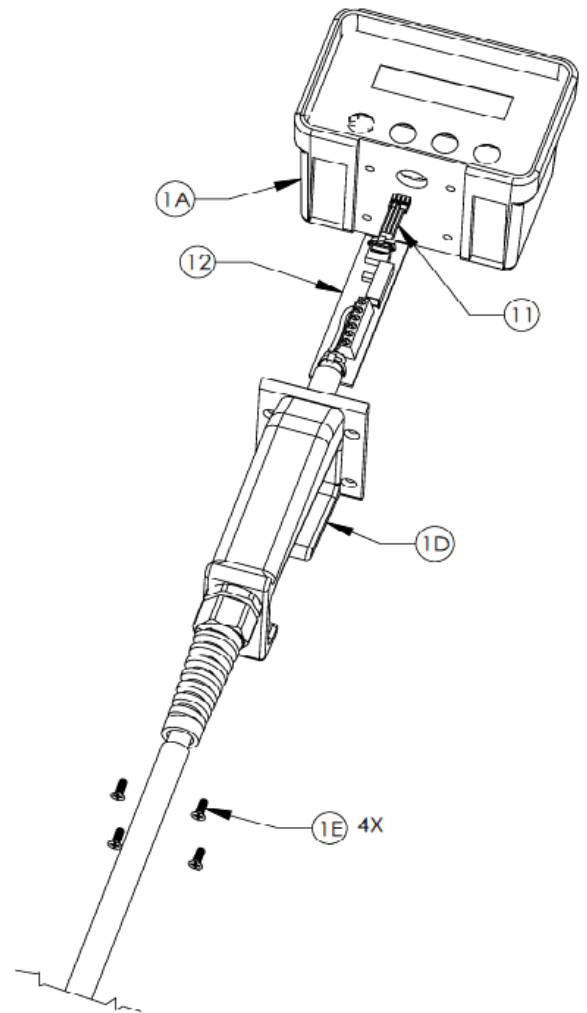
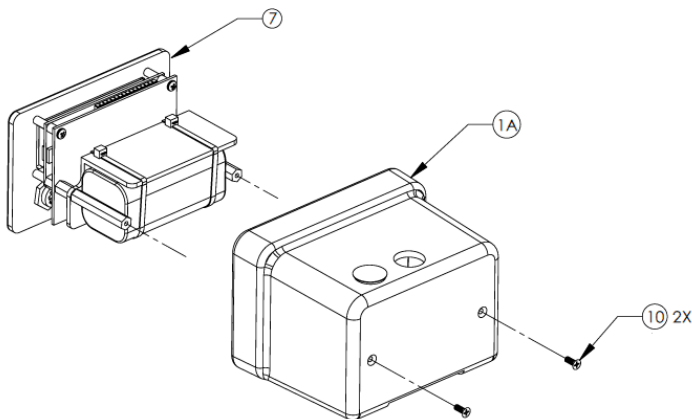
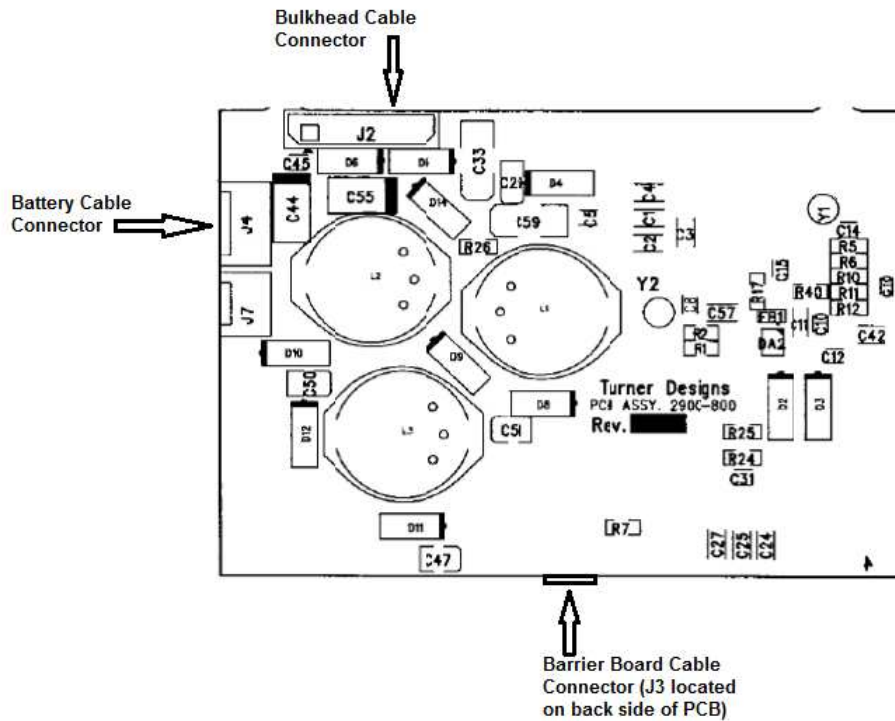
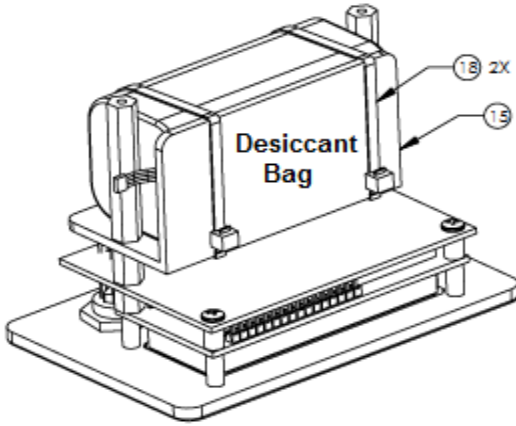

Figure 1.
Figure 2.
Figure 3.
Figure 4.
1. Remove the 4 screws, Ref 1E, that secure the handle, Ref 1D, to the housing, Ref 1A. Refer to Figure 1.
2. Slowly pull the handle, Ref 1D, away from the housing about 1" (2.54 cmn). The Barrier Board, Ref 12, and Barrier Board Cable, Ref 11, will now be exposed. Carefully disconnect the Barrier Board Cable, Ref 11, from the edge connector, J3 (refer to Figure 3), on the DataBank CPU PCB Assembly contained in the housing. Refer to Figure 1.
6. Remove the 2 self-sealing screws, Ref 10, that secure the CPU Assembly, Ref 7, to the Housing, Ref 1A. Discard screws. Refer to Figure 2.
7. Carefully remove the CPU assembly, Ref 7, from the housing as shown in Figure 2. Not shown are the cable(s) from the bulkhead connectors that are now exposed. Disconnect the Bulkhead Cable Connector from J2 of the DataBank CPU PCB. Refer to Figure 3.
8. The Databank Battery is secured to the battery bracket, Ref 15, on the DataBank CPU assembly as shown in Figure 4. Locate the battery cable on the battery. Disconnect the battery cable connector from J4 of the DataBank CPU PCB (refer to Figure 3). Remove the Desiccant Bag and cut the tie wraps, Ref 18, that secure the battery to the battery bracket, Ref 15.
10. Install bulkhead cable connector into J2 of the DataBank CPU PCB. Install CPU Assembly, Ref 7, into housing, Ref 1A. Apply a thin layer of marine adhesive or RTV to threads of 2 new self-sealing screws, Ref 10 (optional). Install and tighten self-sealing screws, Ref 10, into back of housing to secure CPU assembly. Refer to Figure 2. If applicable, wipe away excess marine adhesive or RTV from housing.
11. Install Barrier Board Cable (connector), Ref 11, into the edge connector, J3, of the CPU Assembly, Ref 7, through the hole in the housing, Ref 1A. Refer to Figure 1. Fold Barrier Board Cable to allow edge of Barrier Board to butt up against bottom of Housing, Ref 1A.
12. While holding edge of Barrier Board, Ref 12, against bottom of housing, carefully slide Handle, Ref 1D, over the Barrier Board and Barrier Board Cable, Ref 11, and secure with 4 screws, Ref 1E. Refer to Figure 1.